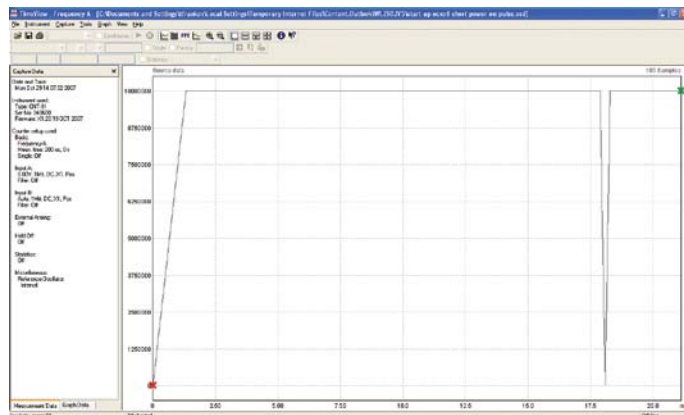

Figure 3. TCXO output frequency vs time after power up (left most red cursor).
When trying to capture oscillator warm-up time, you can quickly capture this by setting up TimeView to make frequency Back-to-Back (BtB) measurements and free-run data capture. An example with a 10 MHz TCXO as the Device Under Test, (using 200 μ s measuring time is shown in Figure 3. The TimeView chart shows the frequency samples (Y) over a time axis (X). The first sample is the time-stamped power-on trigger (red cursor) and also the origin of the TimeView time scale.